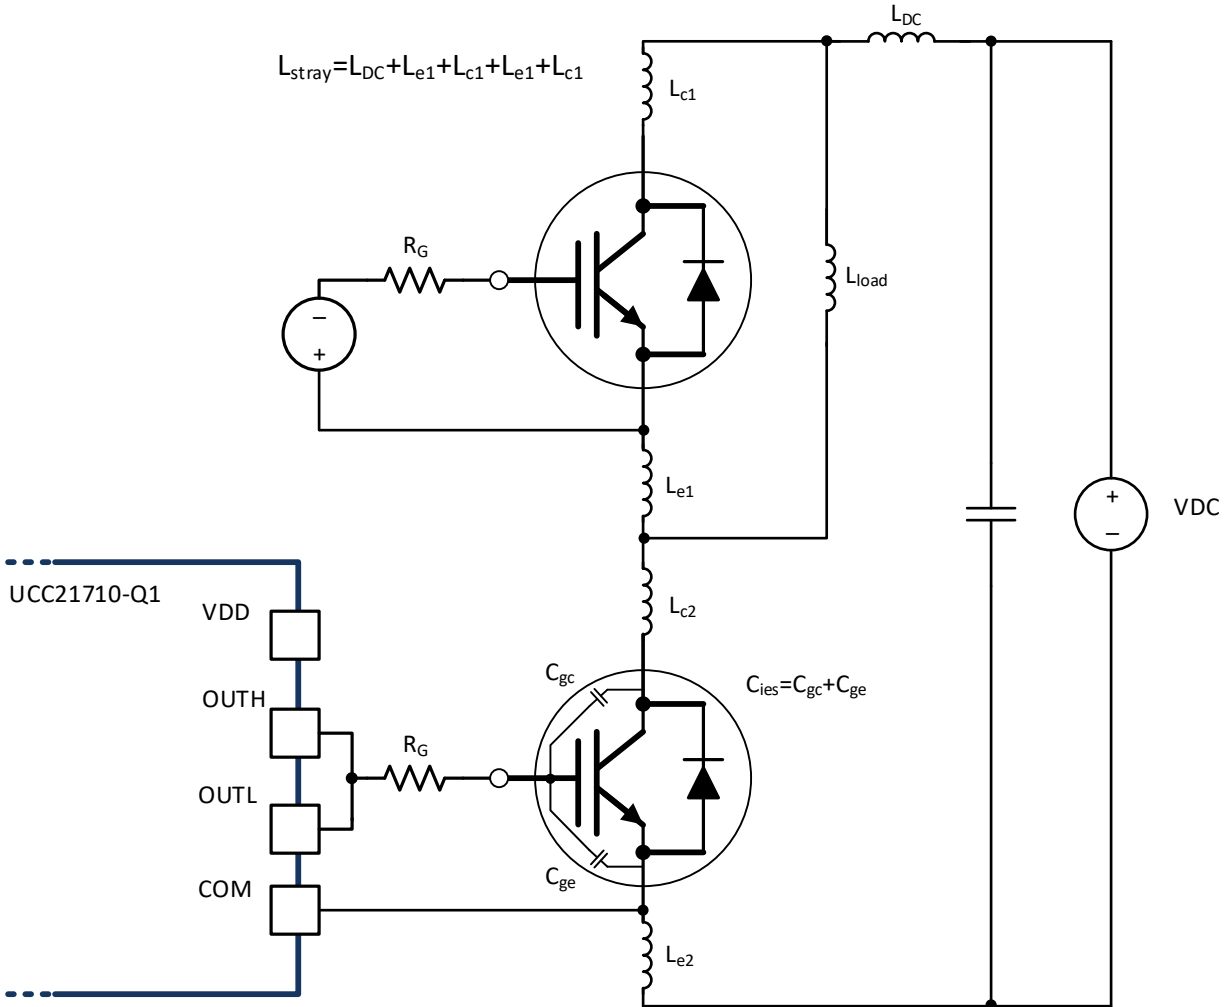

図 8-6. Stray Parasitic Inductance of IGBTs in a Half-Bridge Configuration
- L_{stray} is the stray inductance in power switching loop, as shown in 图 8-6